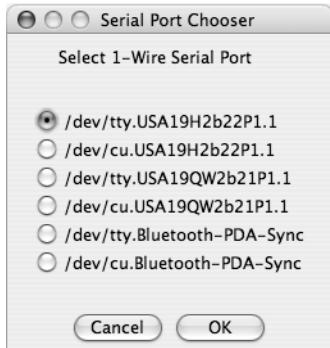

FIGURE 5-14: OneWireLister's Serial Port Chooser.
5. OneWireLister will display a dialog asking which serial port you have your 1-Wire bus connected to as shown in Figure 5-14. Select it from the list and click OK.